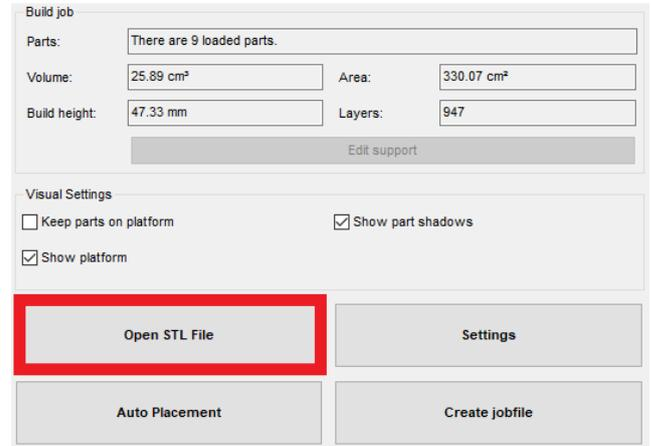

Figure 4: Open STL File
- **Opening via File-Explorer:** Hit the **Open STL File** button and open the file through Windows Explorer (Figure 4).